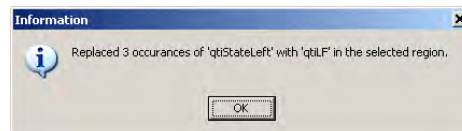

Figure 3-21
- ✓ Click Replace all. A message displaying the number of replacements should tell you how many changes were made as shown in Figure 3-21.